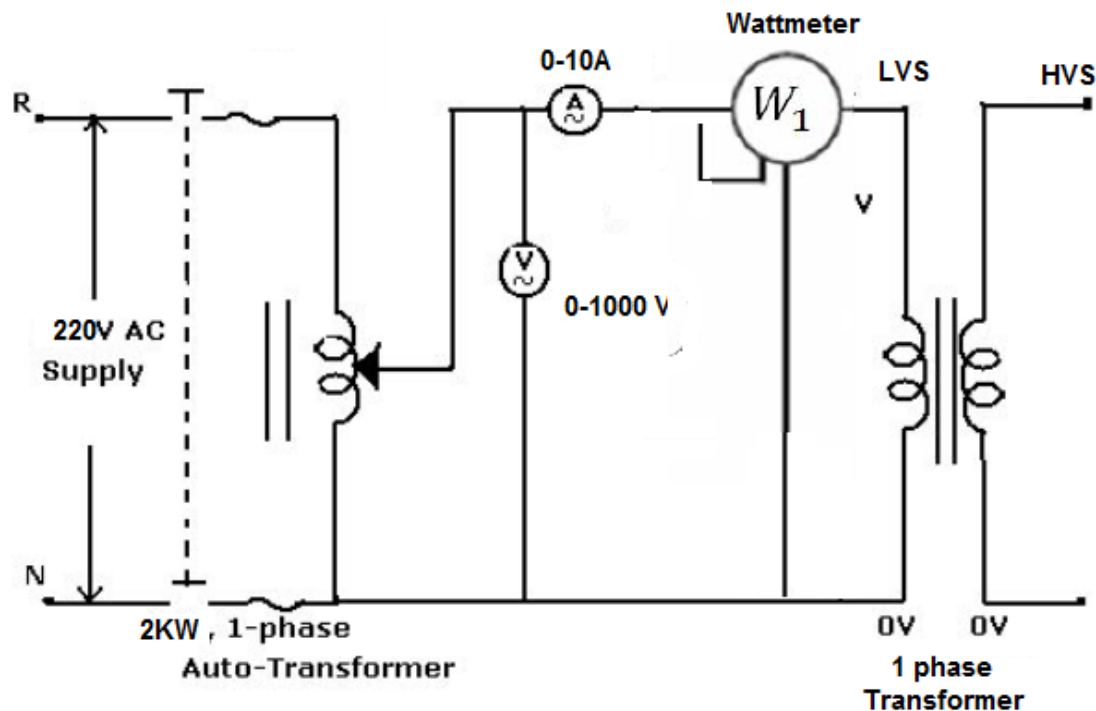

Figure 1: Connection Diagram for Open Circuit Test.
1. Connect the circuit diagram as shown in the Figure 1.